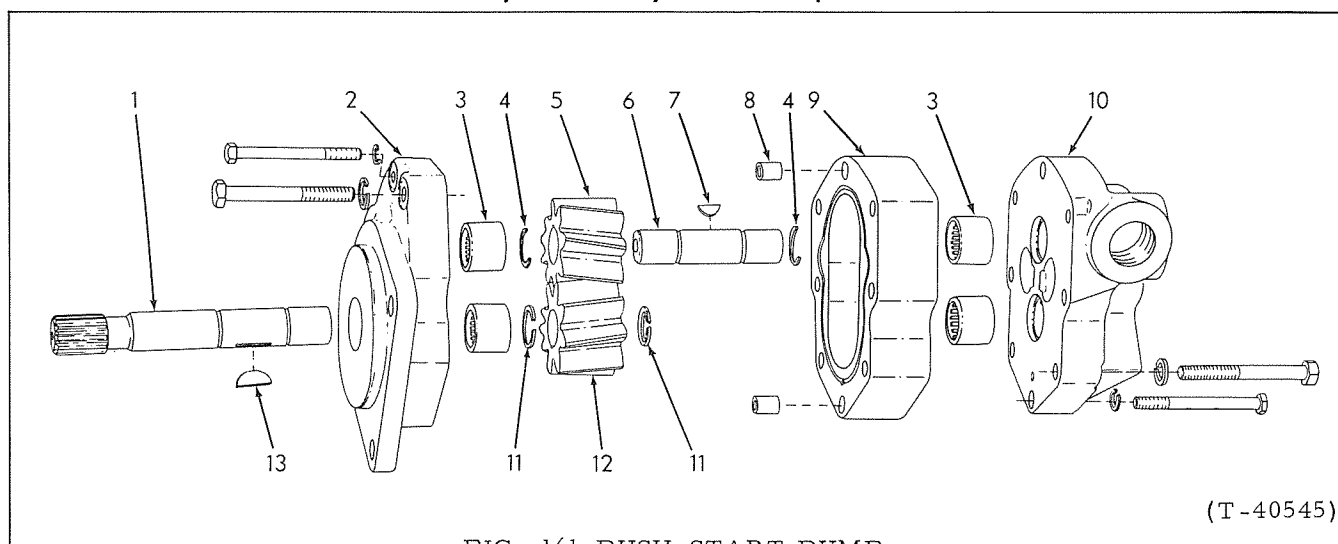

FIG. 16b PUSH-START PUMP
- b. Place pump on a clean work bench and mark housing sections to facilitate reassembly. Refer to Fig. 16b, remove capscrews from pump housings; separate housings by tapping with soft hammer. Mark gears (5) (12) so they may be re-installed in original position if reused.
- c. Remove snap rings, Fig. 16b (11) and drive gear (12) from drive shaft. Remove key (13) from drive shaft and pull drive shaft from adapter housing (2).
- d. Remove needle bearings from end cover housing (10) and adapter housing (2). Remove snap rings (4) and driven gear (5) from driven shaft.
- Install needle bearings, Fig. 16b(3) in adapter housing (2) and end cover housing (10). Drive or press bearings .083" (2.11 mm) below machined surface of housings.
- Install drive shaft, Fig. 16b (1) and